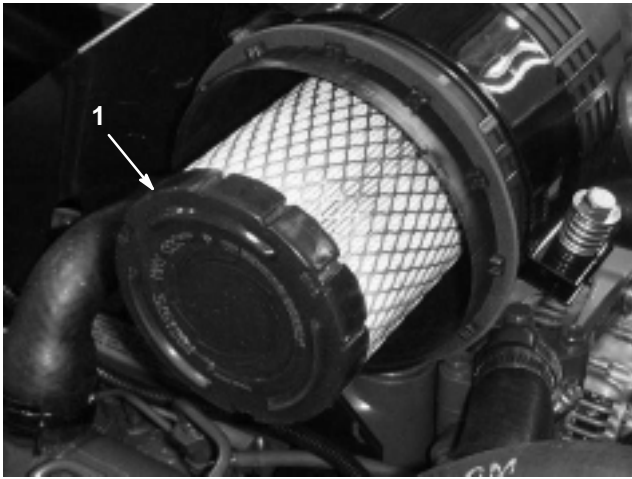

Figure 41
3. Inspect the filter (Fig. 41) and discard it if it is damaged. Do not wash or reuse a damaged filter.